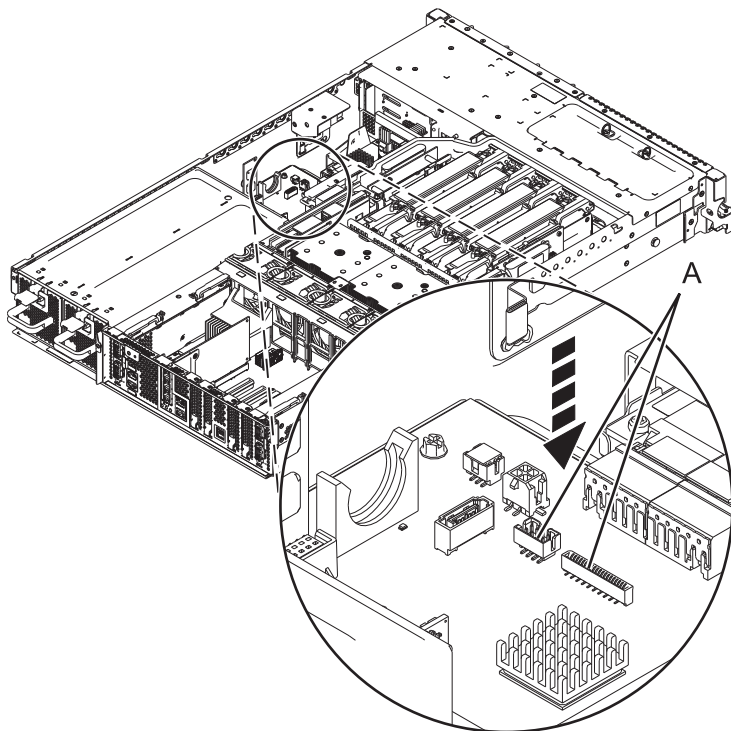

Figure 18. Connecting the operator panel cable
- c. Connect the operator panel cable by firmly pressing the cable connectors into the cable receptacles (A). See Figure 18.